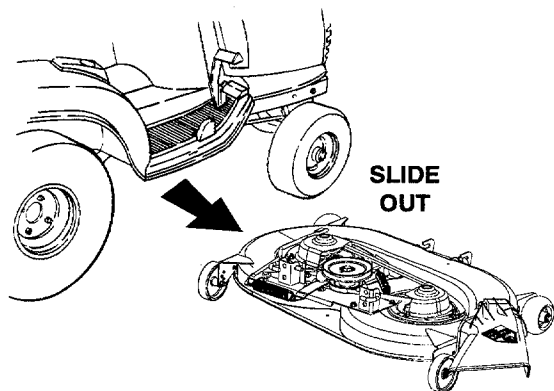

Figure 48
10. With the tractor implement lift handle raised to its highest setting, slide the deck to the right and out from under the tractor (Refer to Figure 48).